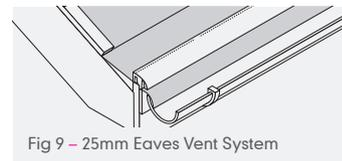

Fig 9 - 25mm Eaves Vent System
- Install the roofing underlay over the support tray, with the leading edge set back from exposure. (Fig 9).